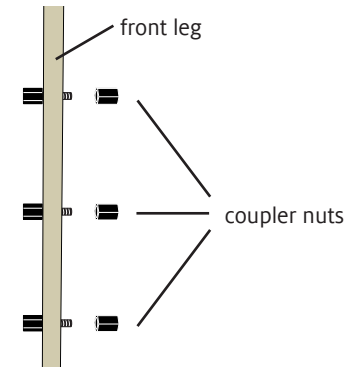

FIGURE 3: INSTALL COUPLER NUTS
2. Hold one end of a coupler screw with your fingers to keep it from turning. Attach a coupler nut to the other end. Screw on the nut until it touches the front leg. Repeat with the remaining coupler nuts (Figure 3). Tighten all the coupler nuts with a wrench and pliers or two wrenches.